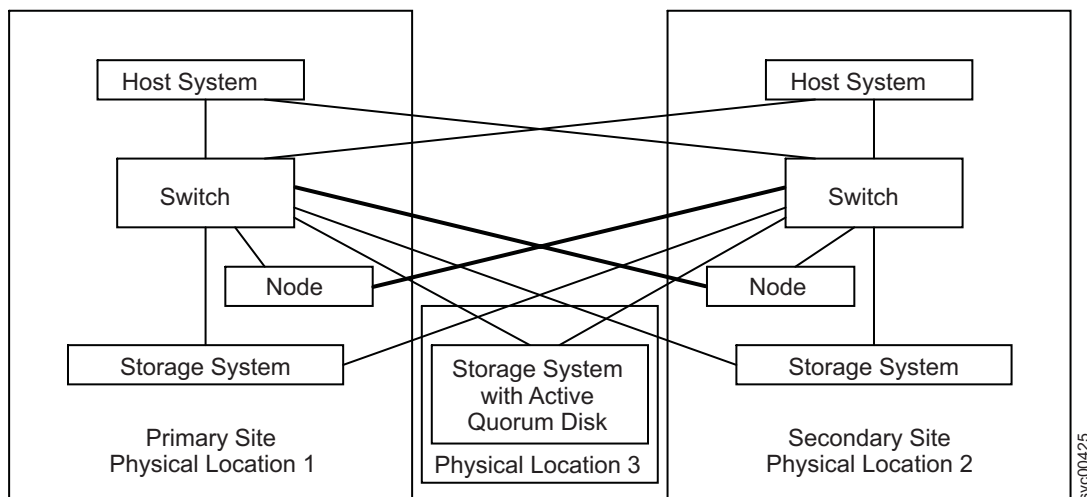

Figure 32. A split cluster with a quorum disk located at a third site
- Figure 32 on page 95 illustrates an example split cluster configuration. When used in conjunction with volume mirroring, this configuration provides a high availability solution that is tolerant of a failure at a single site. If either the primary or secondary site fails, the remaining sites can continue performing I/O operations. In this configuration, the connections between SAN Volume Controller nodes in the cluster are greater than 100 meters apart, and therefore must be longwave fibre-channel connections.
In Figure 32, the storage system that hosts the quorum disks is attached directly to a switch at both the primary and secondary sites using longwave fibre-channel connections. If either the primary site or the secondary site fails, you must ensure that the remaining site has retained direct access to the storage system that hosts the quorum disks.